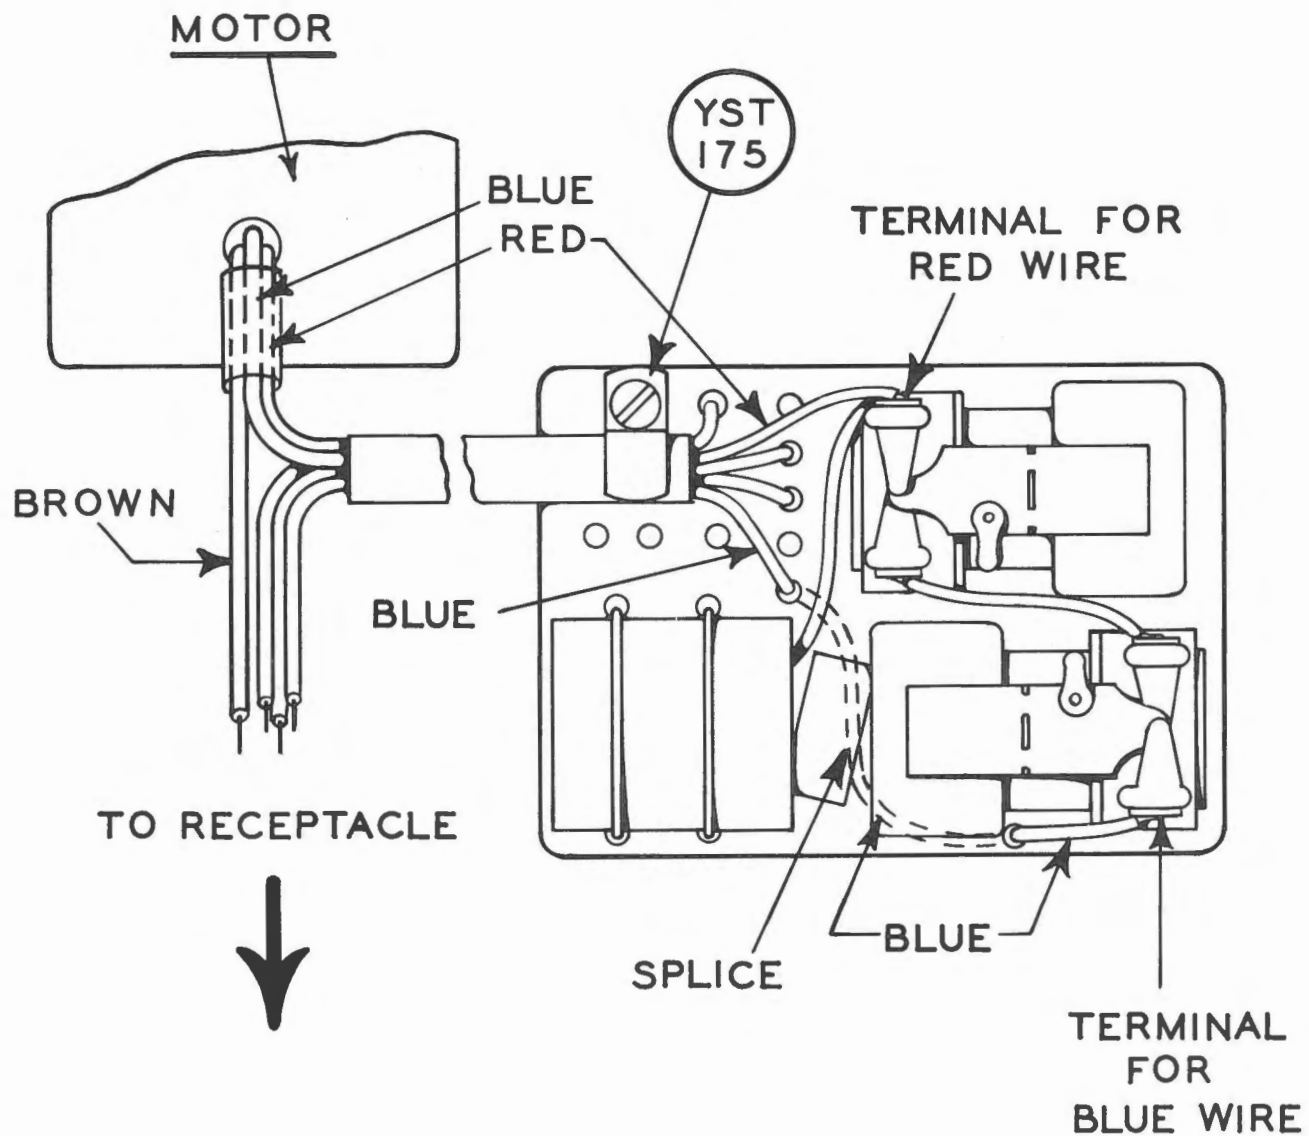

Figure 22 — Wiring Details of Relay Assembly
Note: See diagram Fig. 22 for cable connections.
Clip the blue and red wires connecting the motor to the relays and also the brown wire which is connected to one of the receptacle prongs. Leave the colored ends in for easy identification of the contacts. Release the wire clamp, Part No. YST-175 (See Fig. 22) and remove the old motor following the procedure as outlined under (a). Install the new motor following the instructions as previously outlined (a). Run the red and blue wires to the relays and the brown wire to the receptacle. Remove the clipped off ends of the old leads and solder the new ones in their places at the corresponding terminals. It is suggested to resolder one lead at a time, leaving the remaining old ends in place, to make certain that the new colors will correspond to the old ones. Replace the wire clamp and re-install the relay assembly, the box and the cover. Be sure that the new wires are neatly placed to avoid crowding or interference with the operation of the relays.
c. **RELAY BOX ASSEMBLY.**—Remove and open the relay box and covers as described under (b). Loosen the wire clamp and unsolder all the wire connections to the old assembly required to remove the old box. Identify all connecting points to which the various color coded leads are connected. The sketch Fig. 22 which shows the runs of the various wires in the back and the front of the relay foundation will aid in this identification. Solder and lay the old wires into place to the new relay assembly. Re-install the relay assembly, box and covers.